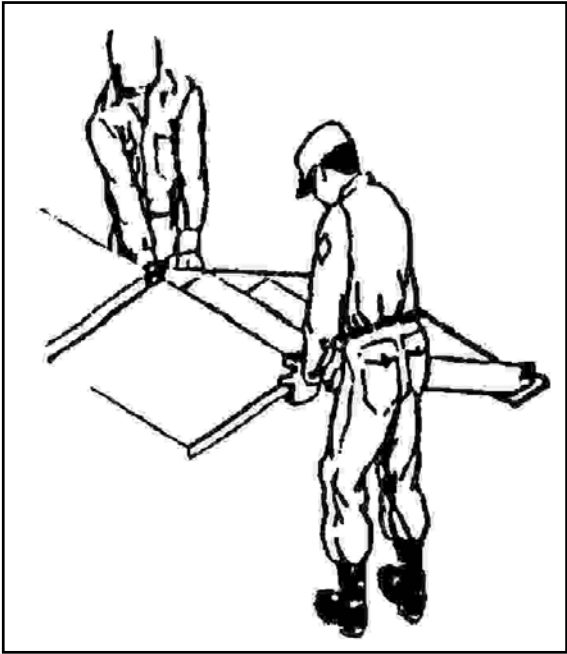
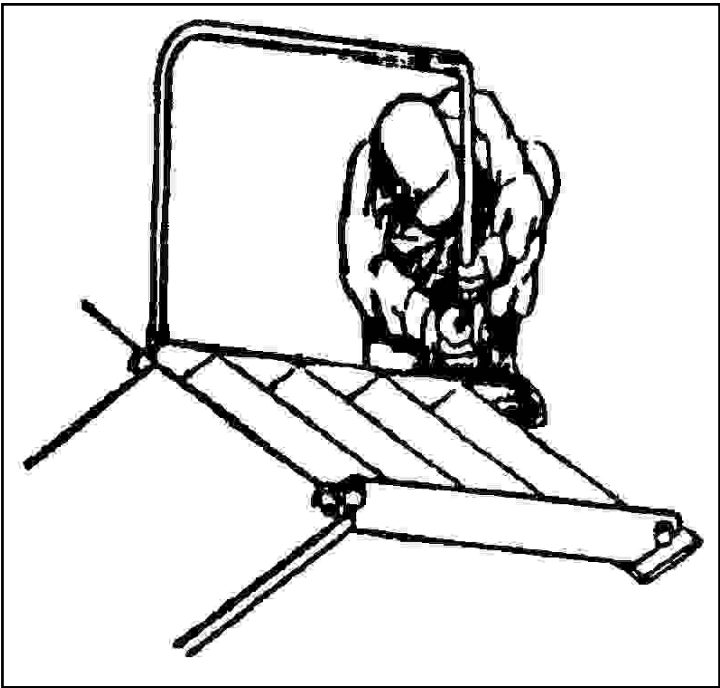

Figure 3-4. Install Ramp
Figure 3-5. Installing Handrail
- f. Have them remove the three ladders and handrails and install them onto ramps at the entry and exit (see Figure 3-4 and Figure 3-5).